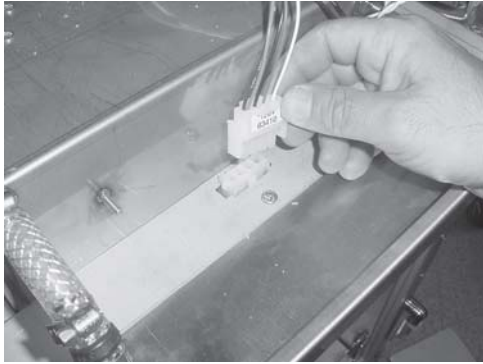

Figure 3-45
4. Unplug water heater and high limit wires. Figure 3-45.